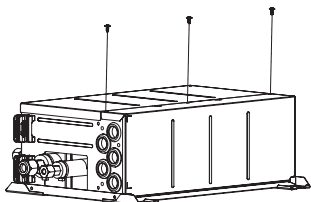

Fig. 4-5
4.1. The direction of the piping can be changed. (Fig. 4-4). [Work Procedures] (Fig. 4-5)
① Remove the screws in each part.
③ Install the top panel on the opposite surface.